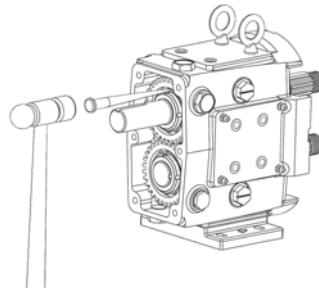

**Figure 58: Installing Lock Washer and Lock Nut**
9) Install the lock washers on the shaft by aligning the tab inside the lock washer with the slot in the shaft (Figure 58, A). Lubricate the threads of the lock nuts and thread them on the shafts. Using a spanner wrench, tighten them to the specified torque in Table 6. Use a wedge (wood or plastic) between the gear teeth to keep the shafts from turning while tightening the lock nuts (Figure 58, B).